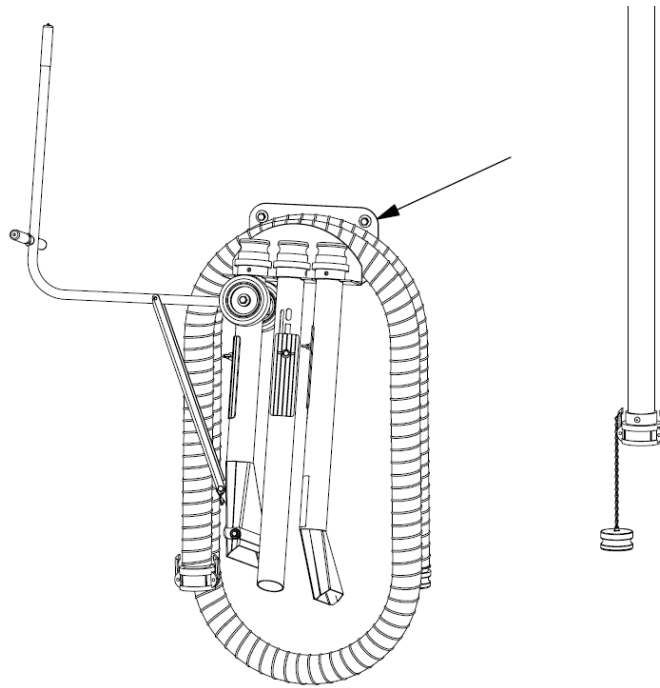

Figure 6-23: Walinga tool storage rack
6. Store the intake line such that the ends are oriented downwards to prevent the accumulation of dust and debris within the line, reference **Figure 6-23**.